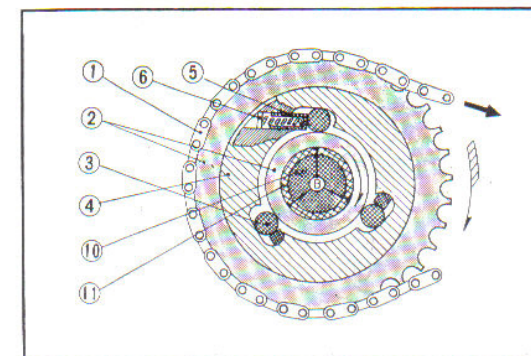

Fig. 5.64 Starting clutch operating principle
- a. The chain is driven in the direction of arrow (a) in the figure. (Fig. 5.64)